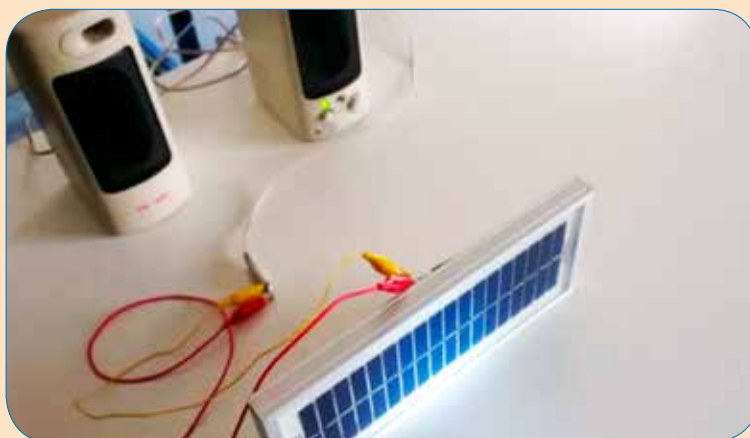

Fig. 10. The receiver's circuit
1. Connect the two wires from the solar panel's output to the 3.5 mm stereo plug or socket of the speakers using two alligator clips (figure 9a,b). Your circuit should look like the one in figure 10.